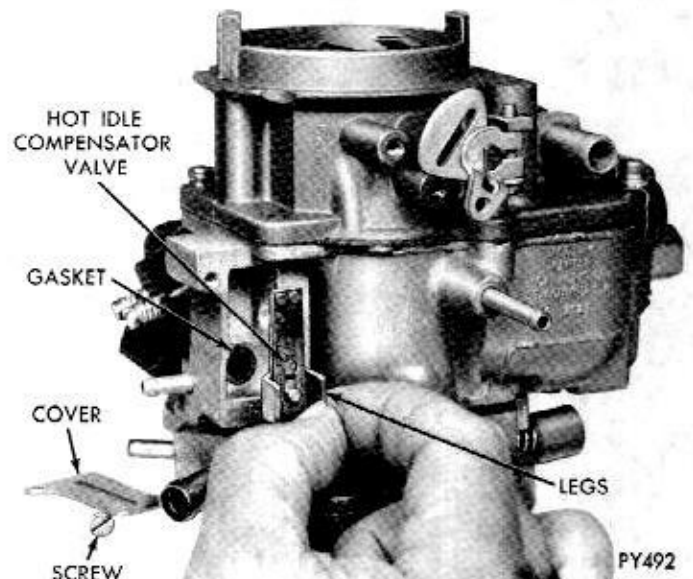

Fig. 4—Removing or Installing Hot Idle Compensator Valve
(18) Remove screws attaching hot idle compensator valve cover to main body. Remove cover, then lift out compensator valve and gasket. (Fig. 4.) (If so equipped.)